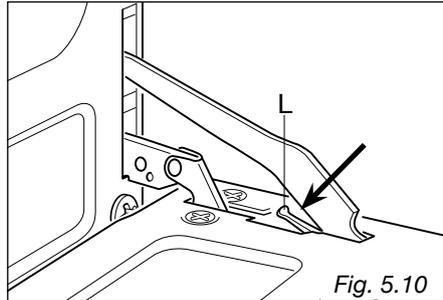

Fig. 5.10
- Push down the lever "L" and, keeping it in this position, slowly close the door in order to block the hinge (fig. 5.10).